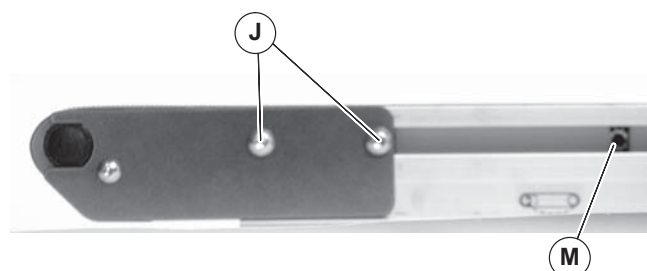

Figure 6
6. With a 5 mm hex-key wrench, rotate pinion gear (Figure 6, item M) to tension the conveyor belt. Tighten two screws (J) on both sides of conveyor to 80 in-lb (9 Nm). For proper tensioning, refer to “Conveyor Belt Tensioning” on page 10.